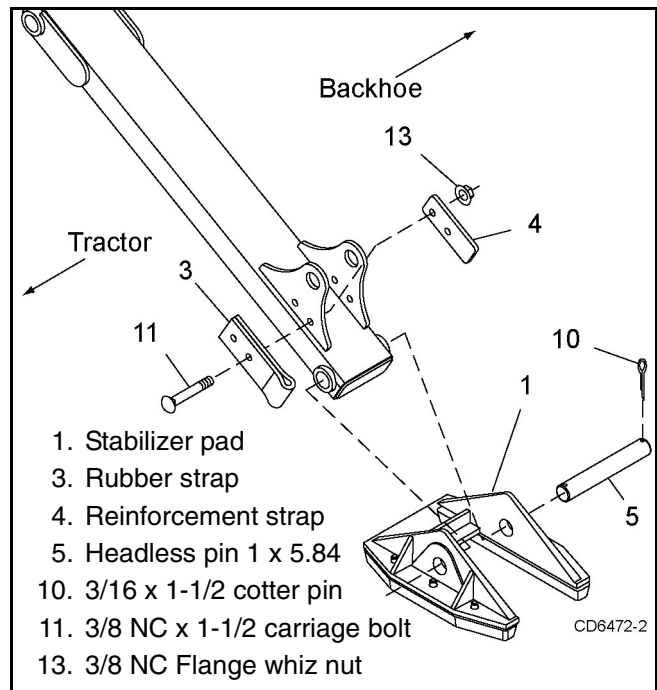

Figure 22. Stabilizer Street Pad Installation
2. Attach rubber strap (3) to the back side (tractor side) of the stabilizer arm using two carriage bolts (11), reinforcement strap (4) and flange whiz nut (13). See Figure 22.
3. Attach stabilizer pad (1) to the end of stabilizer arm using headless pin (5) and two cotter pins (10).